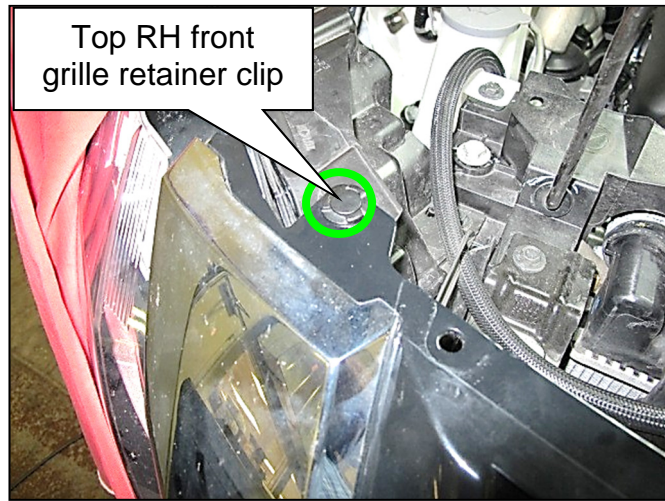
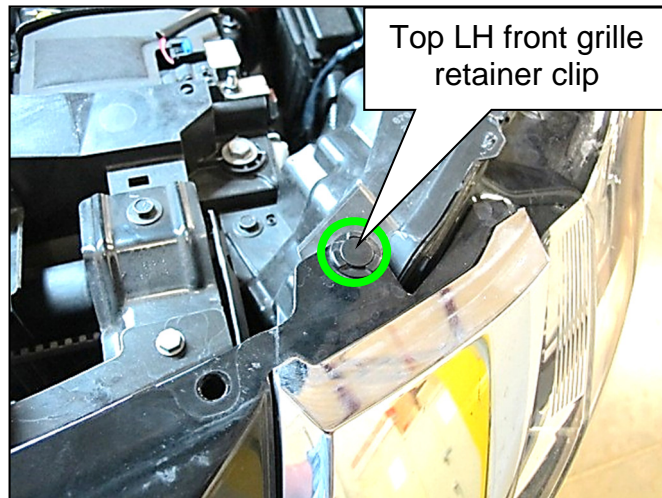

Figure 5
Figure 6
- Using a suitable tool, remove the top passenger (RH) side (Figure 5) and the top driver (LH) side (Figure 6) front grille retainer clips.